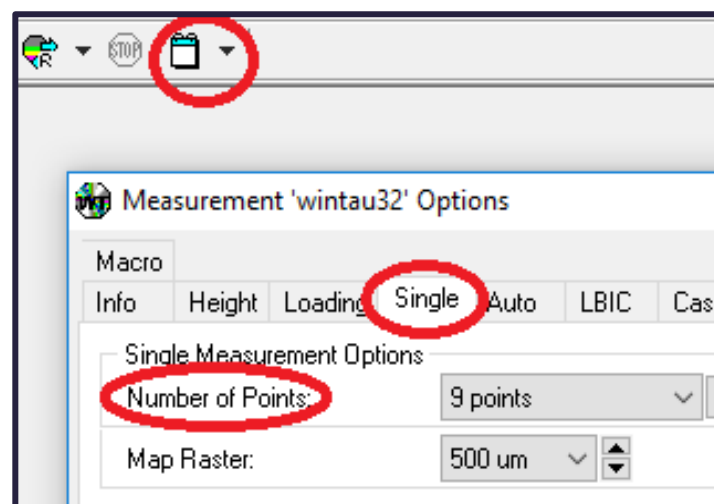

Figure. 4
- b. In "Single" option, set "Number of Points" as per requirement. (Figure. 4)